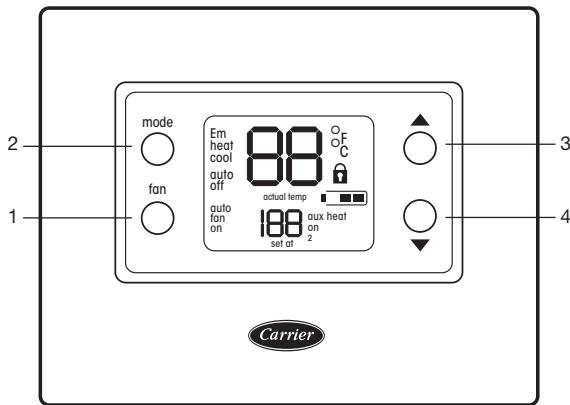

Fig. 1 — Thermostat Button Identification
**Thermostat Button Identification** — The following buttons are located on the thermostat display. See Fig. 1 for button locations.
- FAN (1) — Selects whether the fan operates at low speed (F1), medium speed (F2), high speed (F3), or auto (only when needed for heating and cooling when in unoccupied mode)
- MODE (2) — Selects whether thermostat is set for heating, cooling, emergency heat, auto (heat and cool as needed), or off
- UP (3) — Increases the temperature or adjusts the screen selection up when setting advanced features
- DOWN (4) — Decreases the temperature or adjusts the screen selection down when setting advanced features